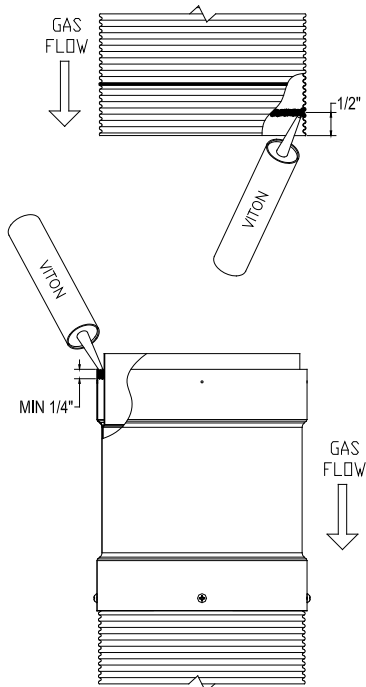

Figure 22 -SecureSeal Flex Viton® caulking
- 3.2. Add another bead of Viton® caulking at 1/2" from the edge of the flexible liner all around the inner side of it (Figure 22).